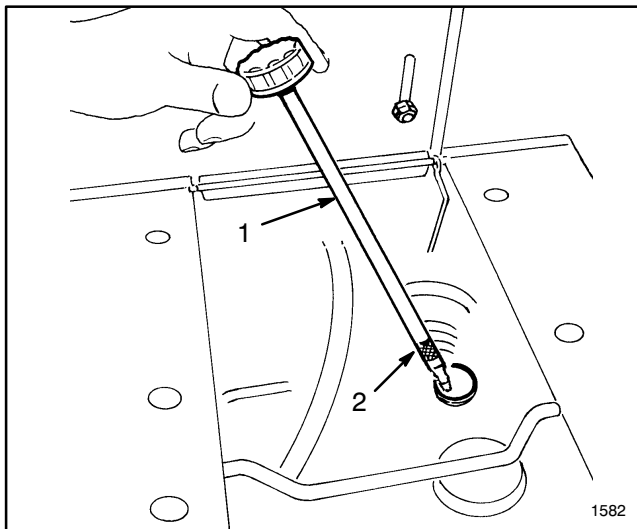

Figure 4
3. Remove dipstick from fill tube (Fig. 4).
5. Slowly pour oil into crankcase (Fig. 4). The engine uses any high quality detergent oil having the American Petroleum Institute — API — “service classification” SF or SG. Oil viscosity — weight — must be selected according to anticipated ambient temperature.
tube; then remove it and make sure that oil level is up to FULL mark on dipstick (Fig. 4). If level is low, add only enough oil to bring level up to FULL mark.